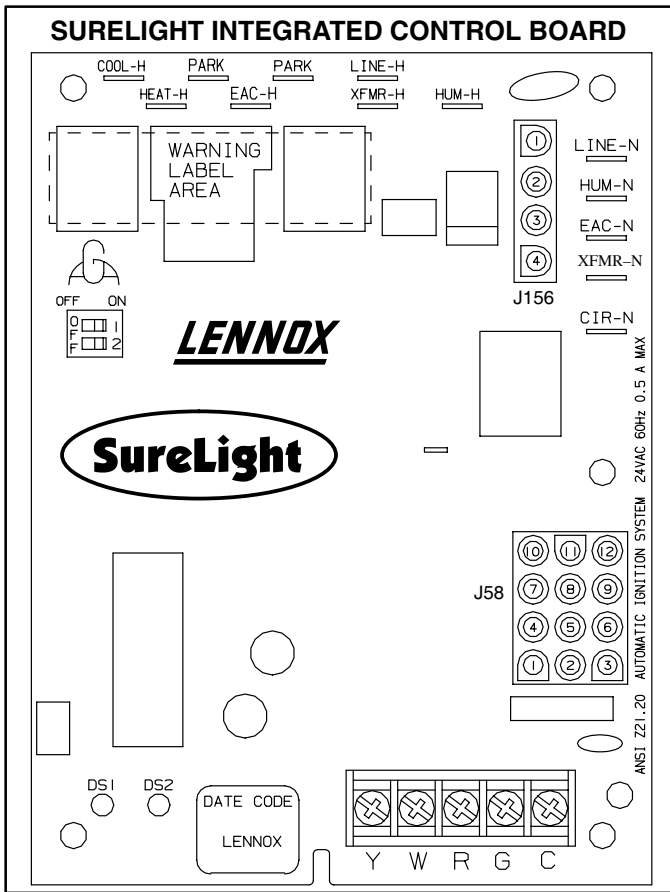
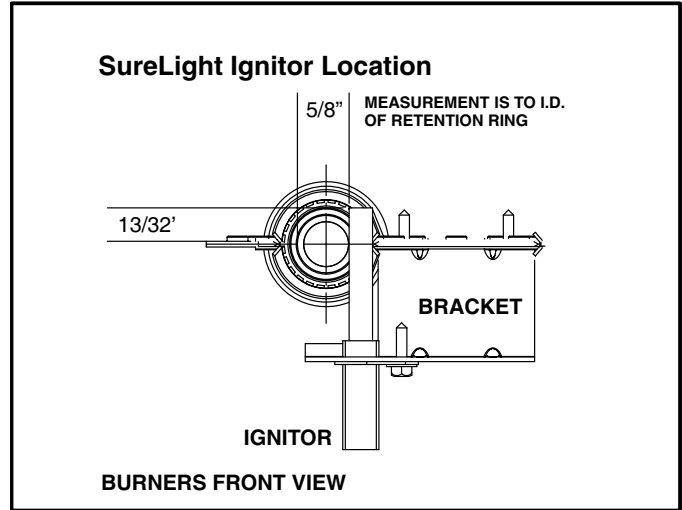
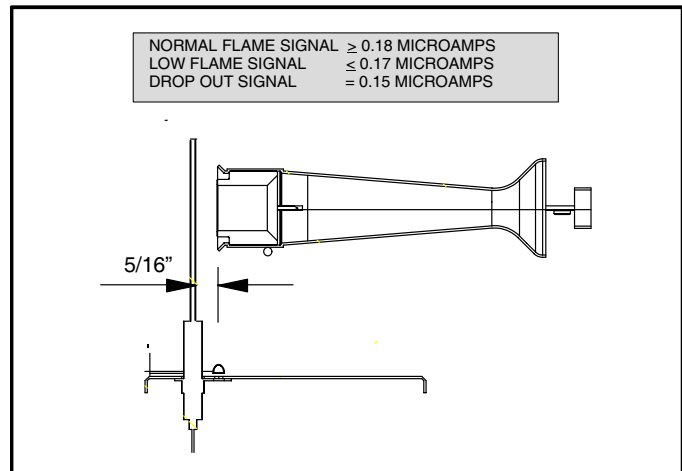

FIGURE 5
FIGURE 6
FIGURE 7
All G41UF model units are equipped with the Lennox SureLight ignition system. The system consists of ignition control board (figure 5 with control terminal designations in table 3), ignitor (figure 6) and sensor (figure 7). The board and ignitor work in combination to ensure furnace ignition and ignitor durability. The SureLight integrated board controls all major furnace operations. The board also features two LED lights for troubleshooting and two accessory terminals rated at (1) one amp. Tables 1 and 2 show jack plug terminal designations. See table 4 for troubleshooting diagnostic codes. The SureLight ignitor is made of durable silicon-nitride. Ignitor longevity is also enhanced by voltage ramping by the control board. The board finds the lowest ignitor temperature which will successfully light the burner, thus increasing the life of the ignitor.
4. Ignitor (Figure 6)
5. Flame Sensor (Figure 7)